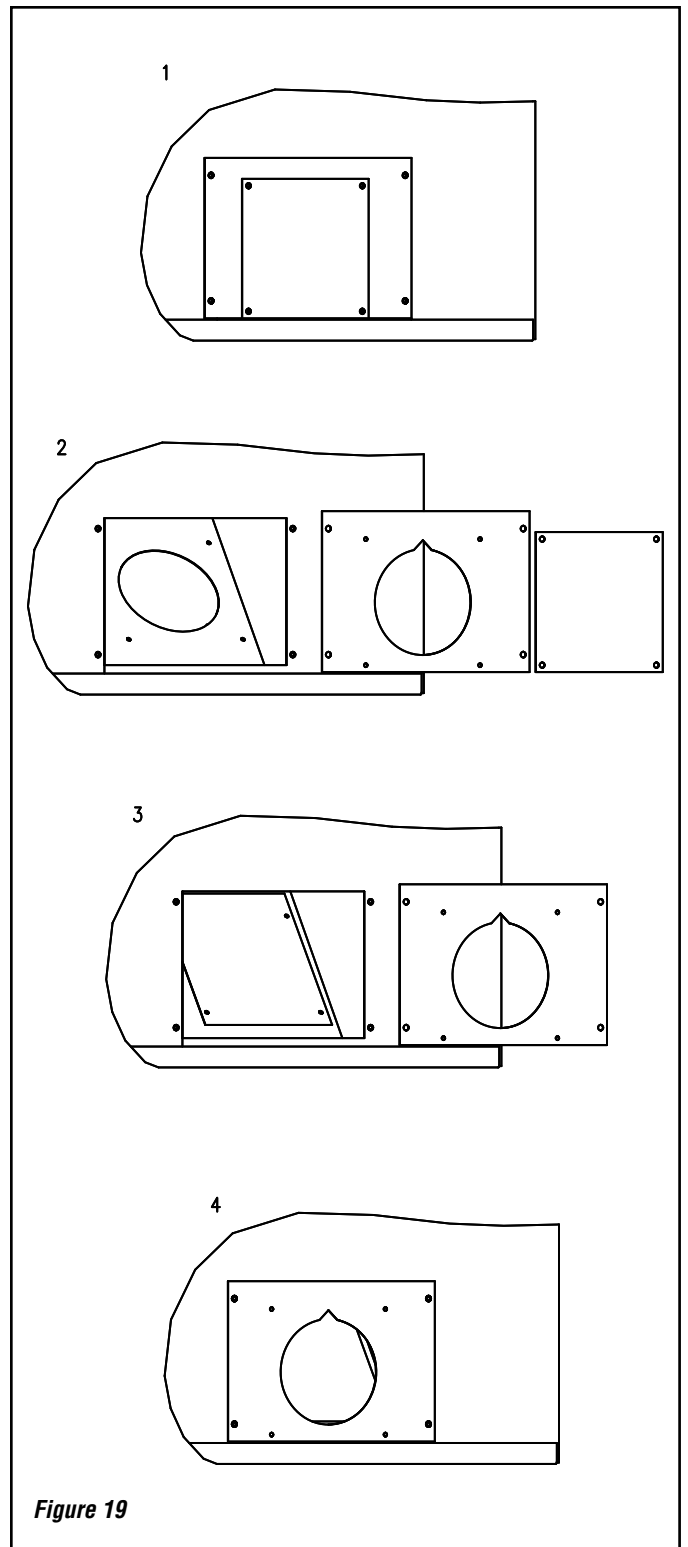

Figure 19
1. Remove the obstruction plate and the access plate (both are superimpose) located on the bottom of the left side (*Figure 19, part 2*).
2. Screw the obstruction plate inside the primary air box using only two screws on the bottom (*Figure 19, part 3*).
3. Reinstall the access plate exposing the 5 inch diameter hole topped by a triangle (*Figure 19, part 4*).